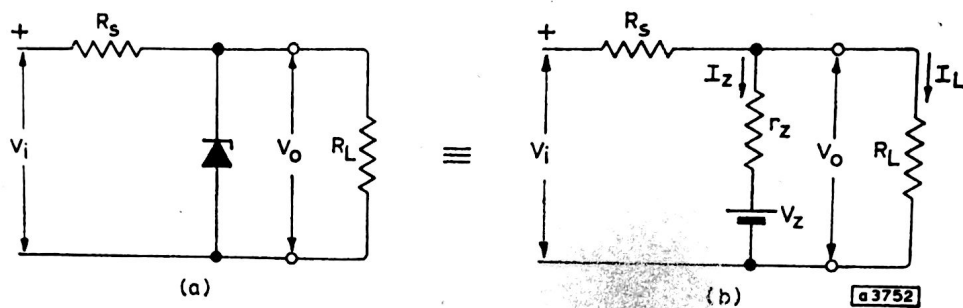

Fig. 9—Simple stabilising circuit and equivalent circuit
The input voltage in Fig. 9 is
The output resistance,  $R_o$ , in Fig. 9 is
Substituting for  $S$  and  $R_o$  in Eq.(8) gives, for the circuit in Fig. 9,
A stabilising circuit similar to that in Fig. 9 is usually designed so that diode current  $I_z$  equals the specified reference current  $I_{zS}$ . Therefore,